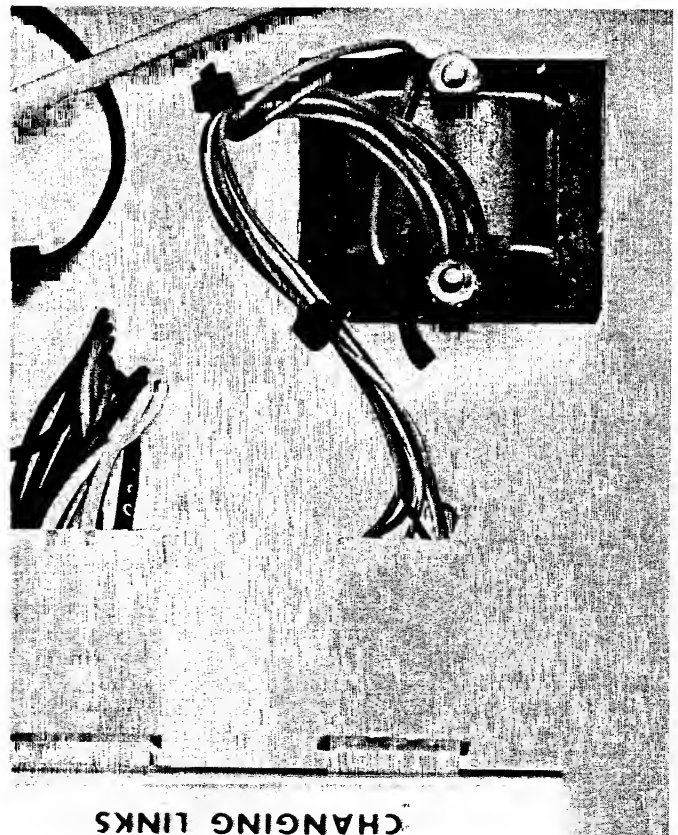

FIGURE 6C
4. Attach the Molex male connector from the output transformer to J11 on the termination bracket per Figure 6C.